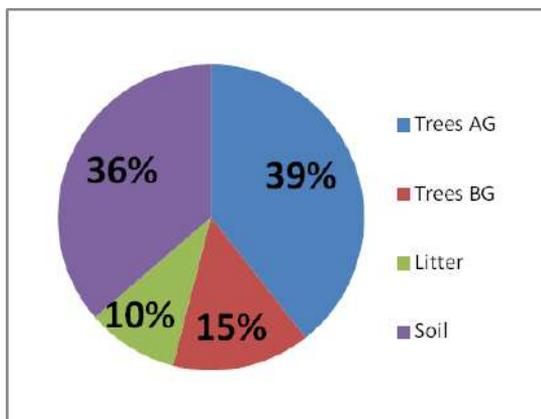

Figure 13: % of total carbon in different forest components
8. Additional carbon is stored in litter and soil. Figure 13 above shows the % of total carbon in all 4 components of the forest.